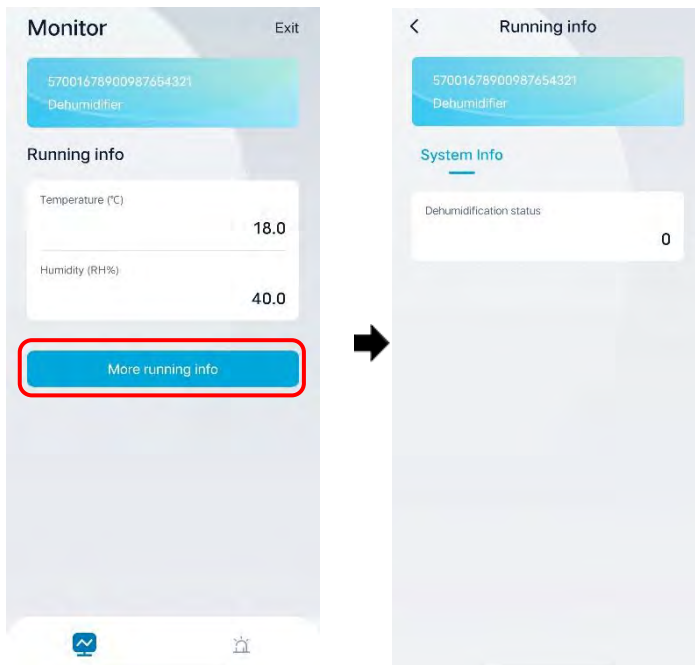

Figure5-10 More running info page
- Tap "More running info " button, the work mode can be viewed, as shown in Figure5-10.